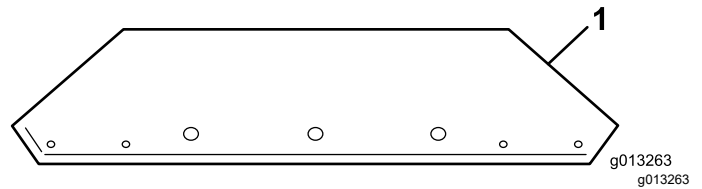
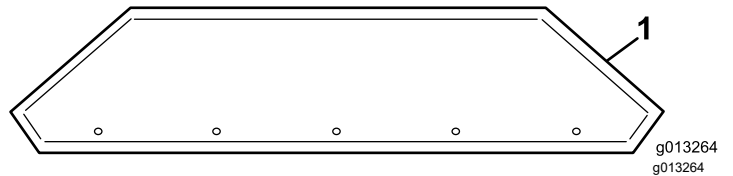

Figure 12
Figure 13
1. Remove the hopper extensions from the box and identify the front and the rear (Figure 12 and Figure 13).